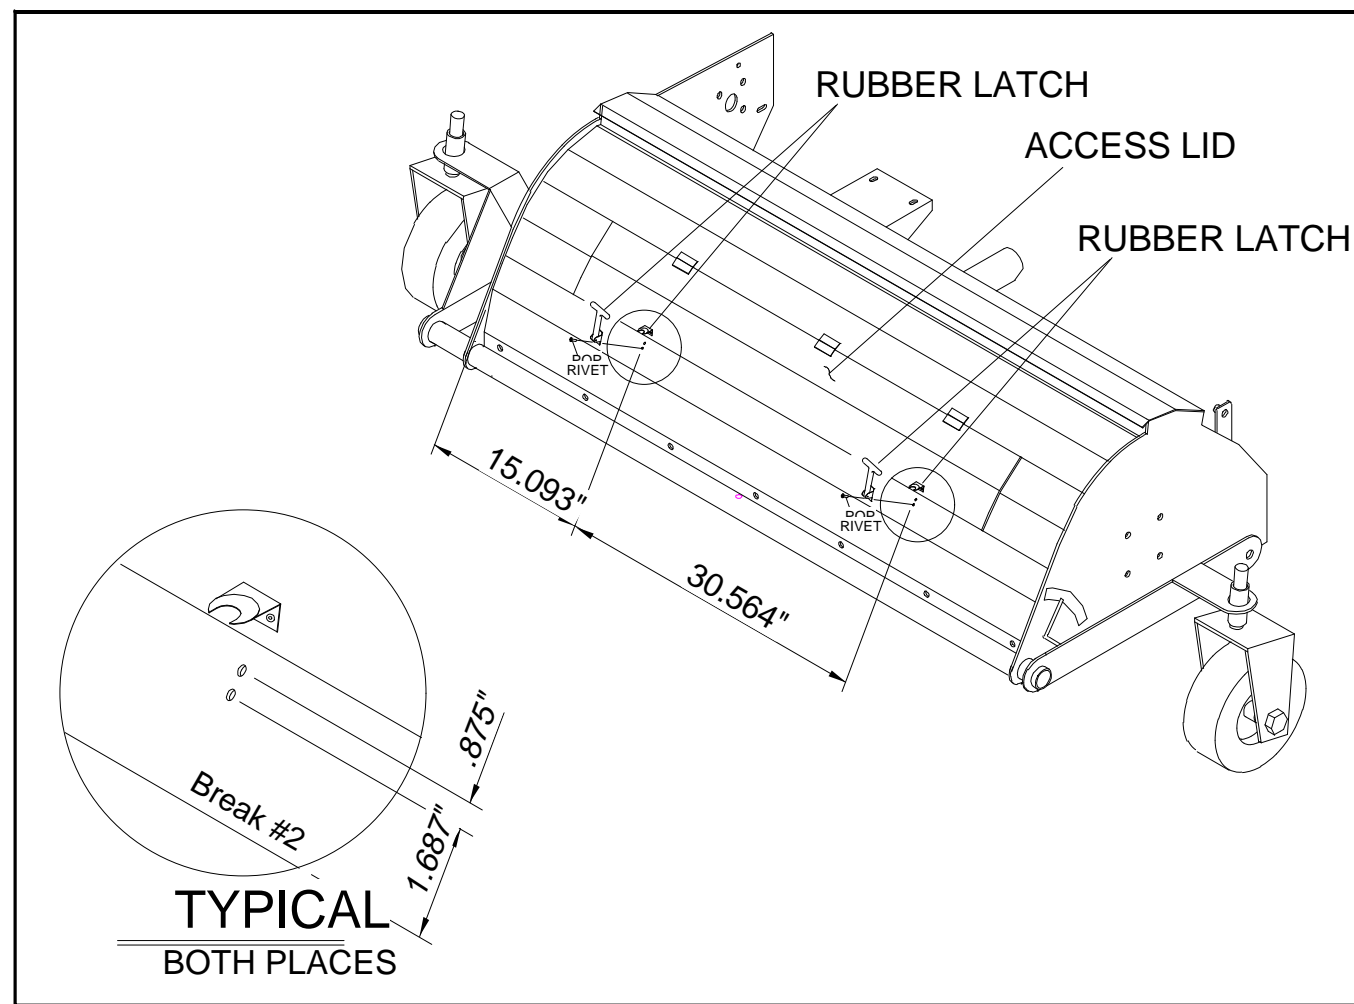

Figure 2
8. Locate and drill (4) four .203 diameter holes and pop rivet rubber latches to main frame as shown in Fig.2.